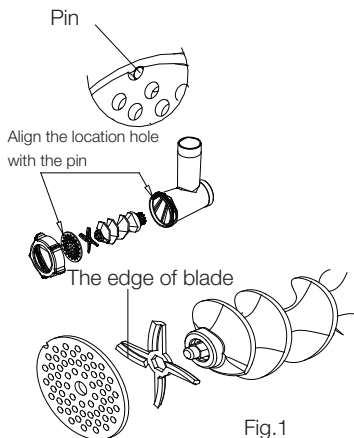

Fig.1
1. Assemble the blending pole, blade, blade tray and blade cover as illustrated as figure (see fig.1) before blending.